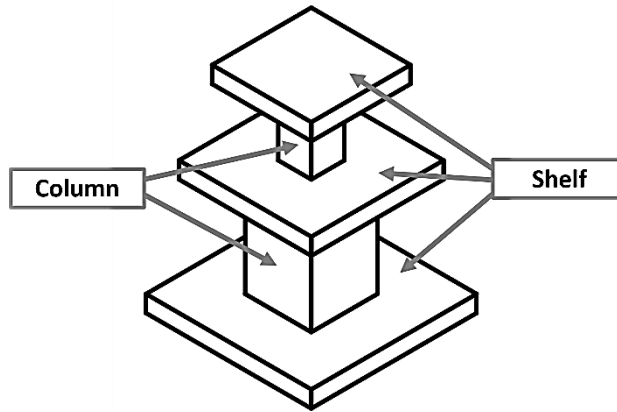

Figure 3
i. Underline **ONE** suitable joining method from the list below which can be used to assemble the display's columns to the shelves as explained in Figure 3.
- dowel joint pop riveting welding dovetail joint screws (1)
15. Table 4 shows some of the tools which can be used to manufacture the display in Figure 3. Fill in the tool list by writing the names and use of each tool.